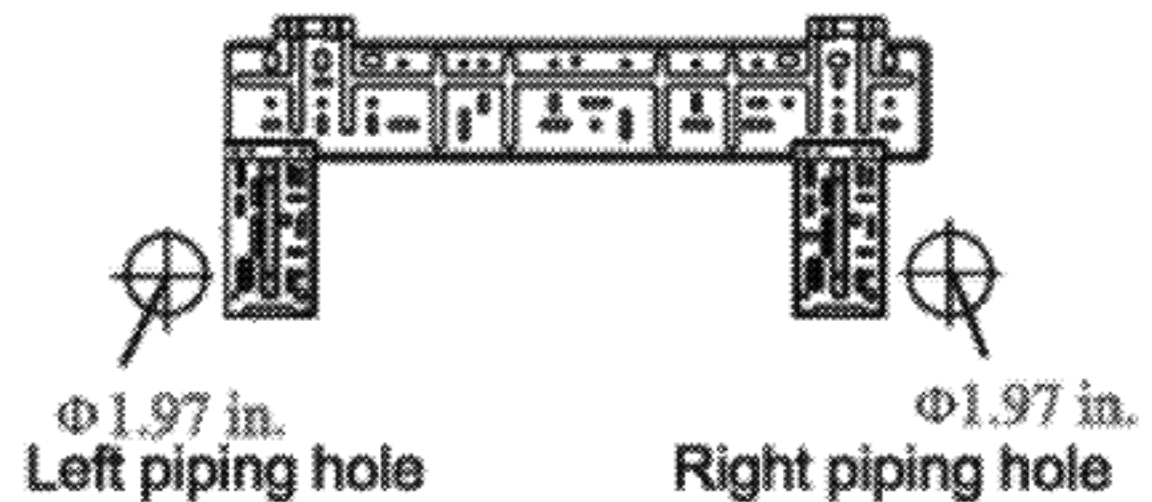

Fig.1
1. Make the piping hole ( $\Phi 1.97$  in.) in the wall at a slight downward slant to the outdoor side. (Shown in Fig. 1)